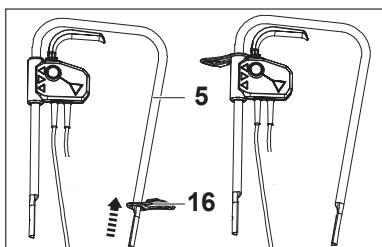

Fig. 3
4. Attach the cord retainer (16) on the upper handle bar (5) (Fig. 3).